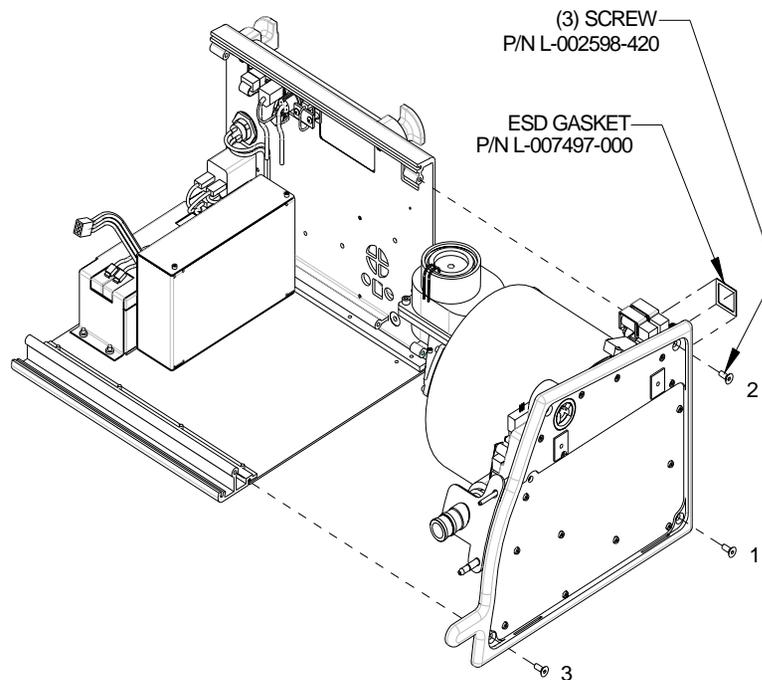

FIGURE 5-2.
3. Install the square ESD gasket, P/N L-007497-000, over the O₂ inlet port and onto the square seat of the O₂ blender; or, onto the square seat of the blender filler block. See Figure 5-2.
4. Being careful not to pinch any wires, set the right end assembly into position. Verify the square ESD gasket installed in step 3 is still in place. See Figure 5-2.
5. Use an 1/8-in hex driver to attach the right end assembly by starting 3 screws, 10-32 x 1/2-in (P/N L-002598-420), in the order shown in Figure 5-2.
- Use an 1/8-in hex bit and a Makita torque driver set at “5” with the speed range set at “L” (or equivalent) to secure the right end assembly by tightening the 3 screws in the same order. See Figure 5-2.